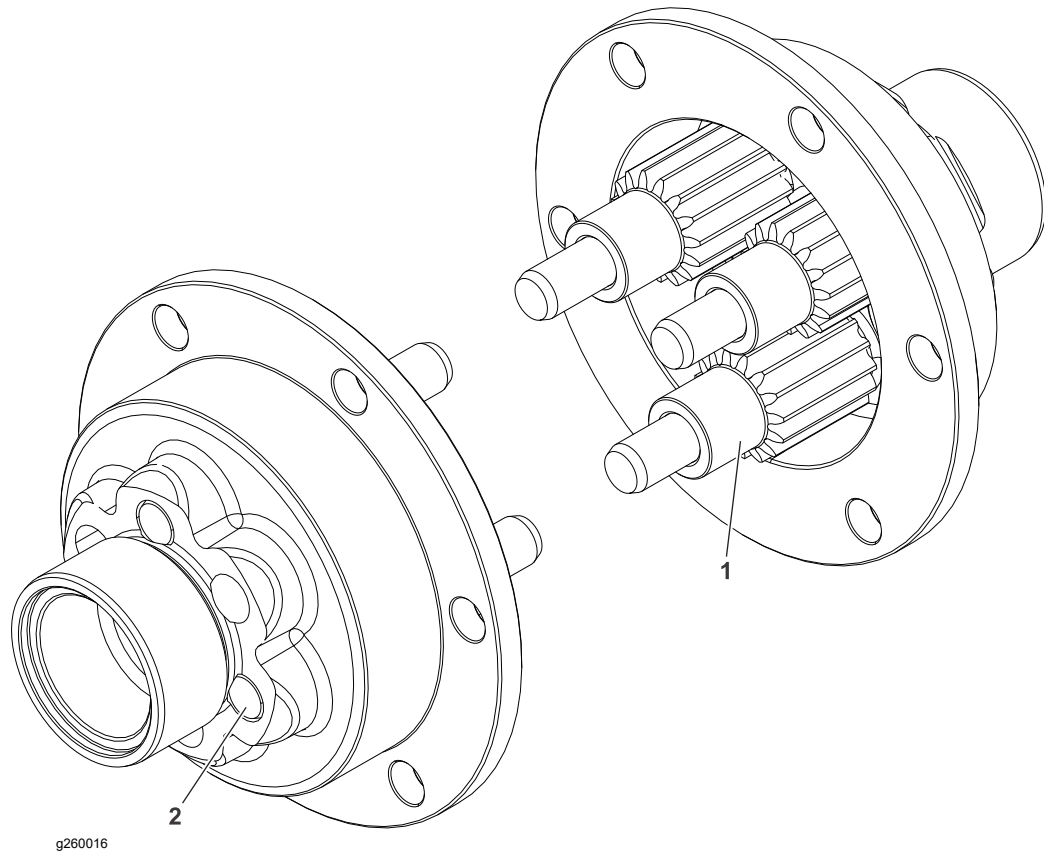

Figure 29
3. The differential pins (2) must be inserted in alternate holes of the differential housing (1) and ensure that the differential pins (2) are flush to the surface of the differential housing; refer to Figure 29.
4. Apply a coat of grease to the differential spur gears (3) and the differential pins (2).
5. Insert the differential spur gears (3) to the differential pins (2) by pointing the gears shoulder up.
6. Fill the differential housing assembly (1) with **0.08 lb (1.25 oz)** of grease.
7. Attach the 2 differential housings (1) to each other.
8. Slide and install the differential housing assembly (1) into the differential gear (4) and secure with the 6 socket head screws (5).
9. In alternate pattern torque tighten the socket head screws (5) to **10 to 12.4 N·m (90 to 110 in-lb)**.